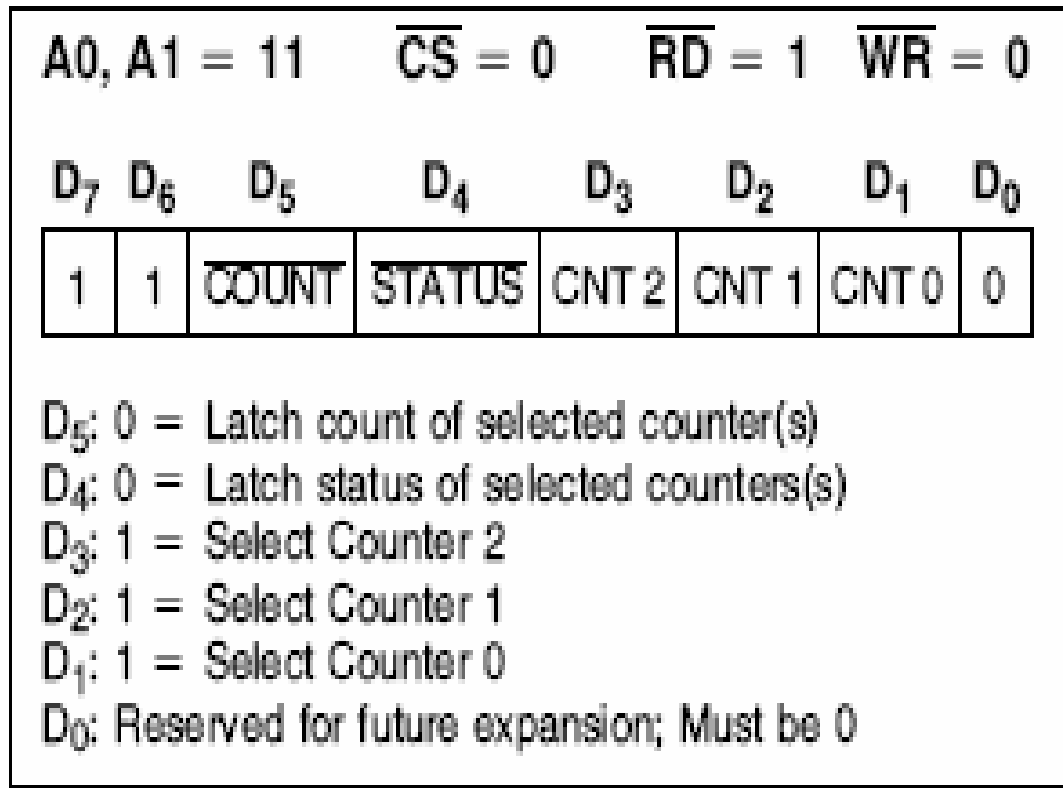

Figure 10. Read-Back Command Format
- The command is written into the Control Word Register and has the format shown in Figure 10. The command applies to the counters selected by setting their corresponding bits $D_3, D_2, D_1 = 1$.
- The read-back command may be used to latch multiple counter output latches (OL) by setting the COUNT bit $D_5 = 0$ and selecting the desired counter (s). This single command is functionally equivalent to several counter latch commands, one for each counter latched.